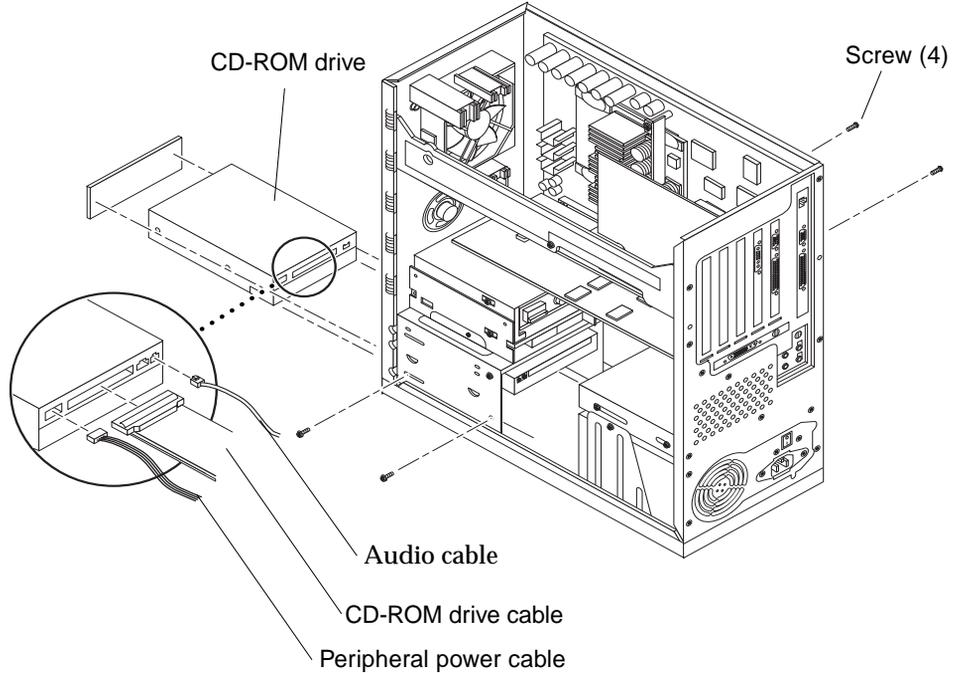

FIGURE 9-9 Removing and Replacing a CD-ROM Drive (Ultra 10)
6. Remove the CD-ROM drive from the Ultra 10 as follows (FIGURE 9-9):
- 3. Replace the CD-ROM drive into the Ultra 10 as follows (FIGURE 9-9):**